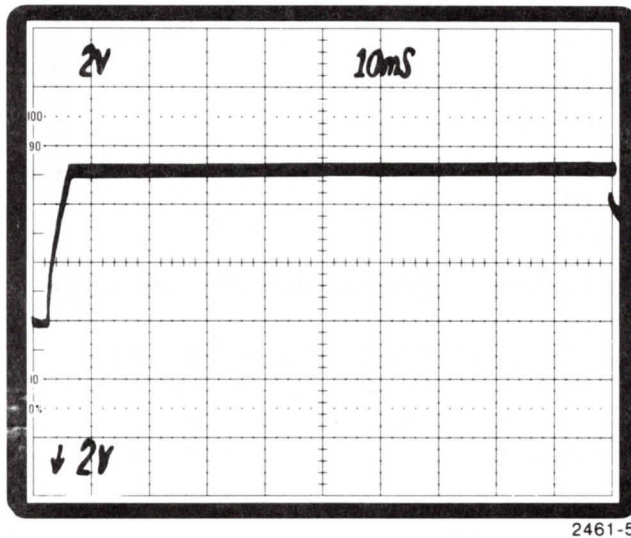

Figure 10-2. INIT Waveform.
4. Turn on the terminal while watching for the INIT waveform on the oscilloscope. See Figure 10-2.